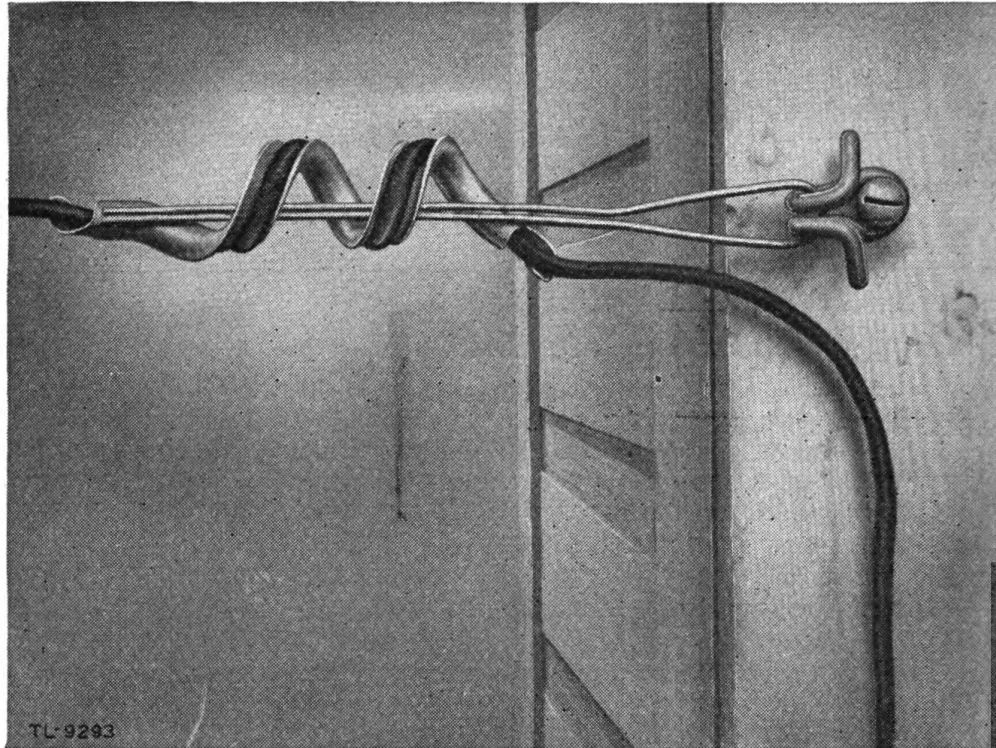

Figure 4. Snub R grip installed in unexposed area.
*b.* **INSTALLING SNUB R GRIP.** (1) The Snub *R* grip consists of a piece of grooved metal shaped to form a spiral. (See fig. 4.) At one end of the spiral a wire loop is attached which is placed over a knob or drop wire hook to mount the grip. Friction between the wire and the grip acts to hold the wire in place.
(2) When installing the snub *R* grip, place the wire loop over the supporting attachment. Wind the drop wire in the grooves of the grip, starting from the side opposite the span, in order to prevent kinks from developing in the vertical run.